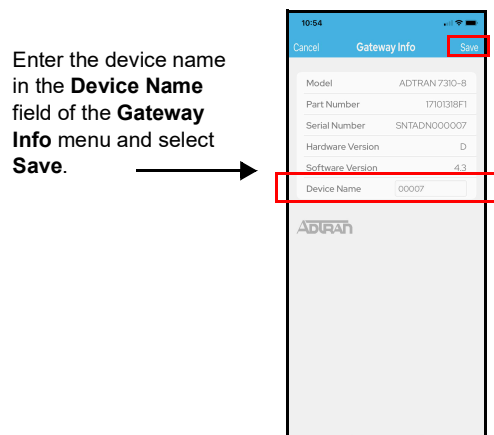

Figure 7. Change the Device Name in the ADTRAN IoT App
- The first step in configuring the LoRaWAN gateway is to rename the device so that the last 5 digits of the serial number (the default name of the device and the device PIN) are not distributed. Be sure to note your device PIN before changing the default name of the device, as the PIN will not change but will no longer be displayed in the device name. To change the name of the device, select the **Gateway Info** tab from the **Connected Device** menu. In the **Gateway Info** menu, enter a new device name in the **Device Name** field, and select **Save** (as show in Figure 7).